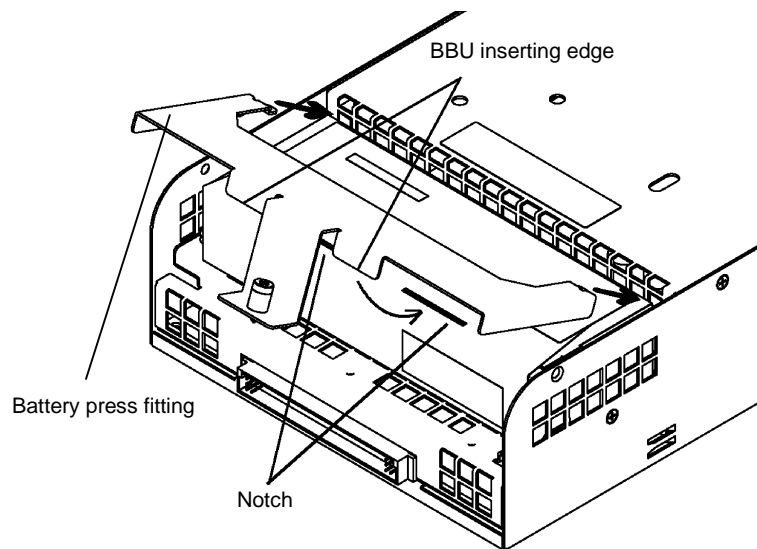

Figure 3-24. Installing the Battery Press Fitting.
10. Install the battery press fitting, previously removed, into the replacement power supply. Insert the rear tabs of the battery press fitting into the slots behind the battery backup unit. Insert the front tabs of the battery press fitting into slots on the battery backup unit. See Figure 3-24.